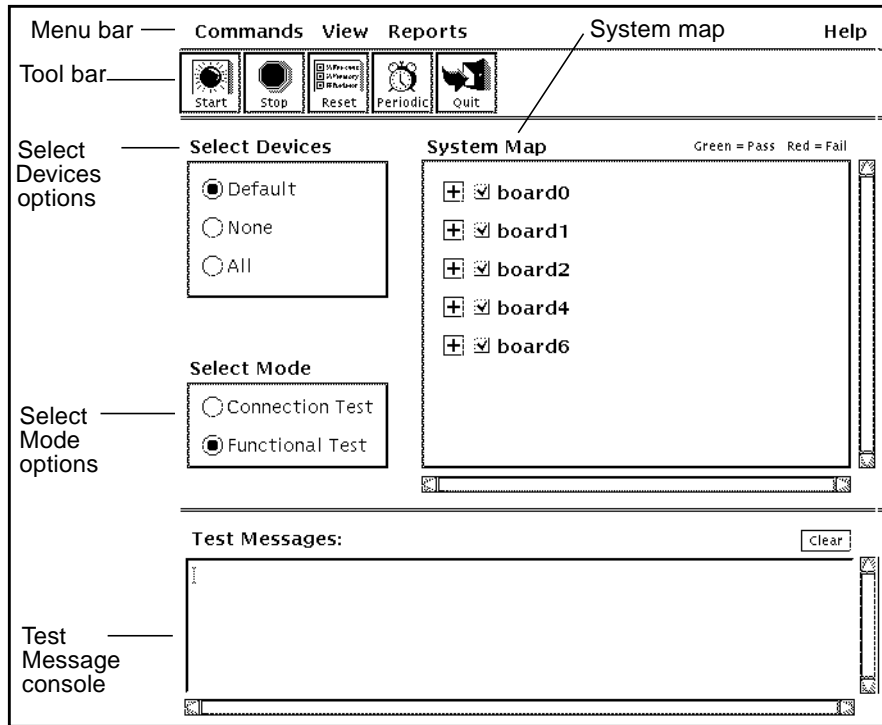
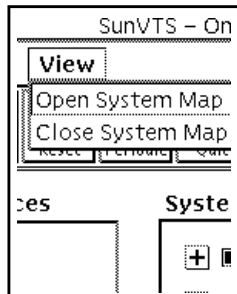

FIGURE 3-6 SunVTS Online Diagnostic Tool
FIGURE 3-14 View Menu
The Online Diagnostics icon (see FIGURE 3-1) launches the SunVTS Online GUI. This GUI is used to perform online diagnostics and troubleshoot components (see FIGURE 3-6).
To schedule testing at a future time, either periodically or for one time, use the Periodic Testing feature under the Commands menu. When you click the Online Diagnostics console, the following screen is displayed (see FIGURE 3-6).
TABLE 3-3 describes the features shown in FIGURE 3-6.
- To run a test on one device or just a few devices, select None. Select the device(s) you want tested by clicking the device name or checkbox (see FIGURE 3-6).
The View menu on the main SunVTS Online Diagnostics screen (see FIGURE 3-14) lets you expand or contract the System Map (see FIGURE 3-6) and has two options: